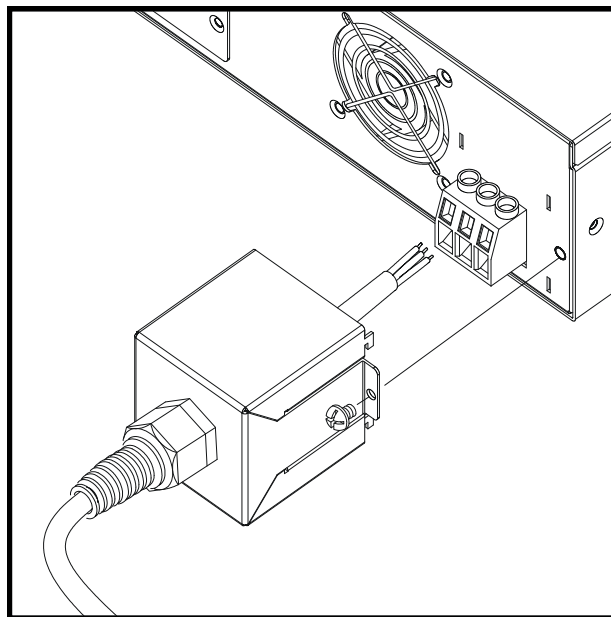

Figure 2-2
- (1) The input connector board is located at the right of rear panel.
- (2) The power line must be 85°C rated at least.
- (3) The power cable width must be within 10AWG~12AWG. (**Note:** 62050P must be within 8AWG~10AWG when connecting 3-phase 4-wire Δ .)
- (4) To assemble 62006P, 62012P & 62024P ➔ see Figure 2-2 and execute the following steps: